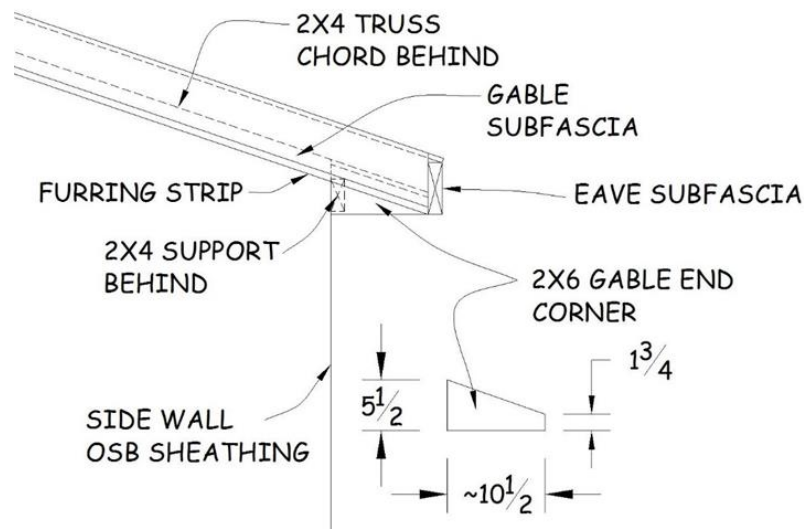

Figure 22-10. Gable End Corner Installation.
2. At each corner of the shed, measure the distance from the inside of the eave end sub-fascia to the shed wall. Mark a scrap 2x6 to this length with one end of the length 5½” high and the other end 1¾” high (see Figure 22-10). Cut the angle on the 2x6 first (for safety reasons) then cut the 2x6 to the measured length for the gable end corner. Cut a scrap piece of 2x4 8-12” long for use as a gable end corner support block.